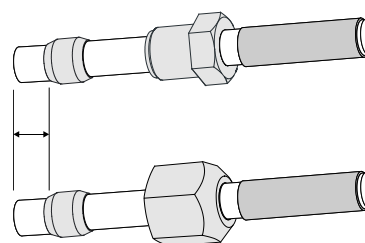

fig. 15
**For correct installation, the compression ring should be firmly in position no less than 2-3 mm from the start of the pipe. If the distance is less, shorten the pipe and repeat the operation (fig.15).**